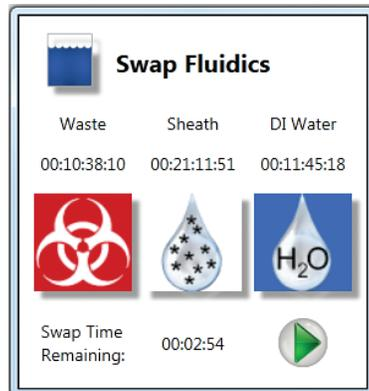

Fig. 67. Swap Fluidics window with swap time remaining highlighted.
2. A countdown timer will automatically start. This is the amount of time left to swap the containers before the system will automatically shut down (Figure 67).